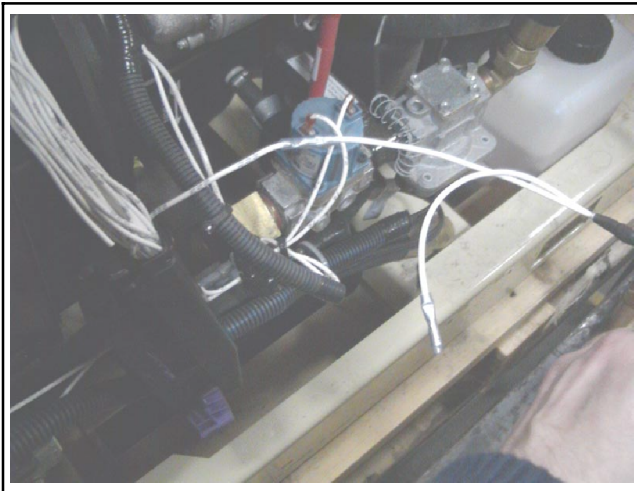

Figure 4 View of Lead #222 Stripped and Crimp Connected to GM64331 (Harness)
4. Strip lead #222 from the P10 plug 3/8 in. and crimp into the connector on the new harness (GM64331). See Figure 4.